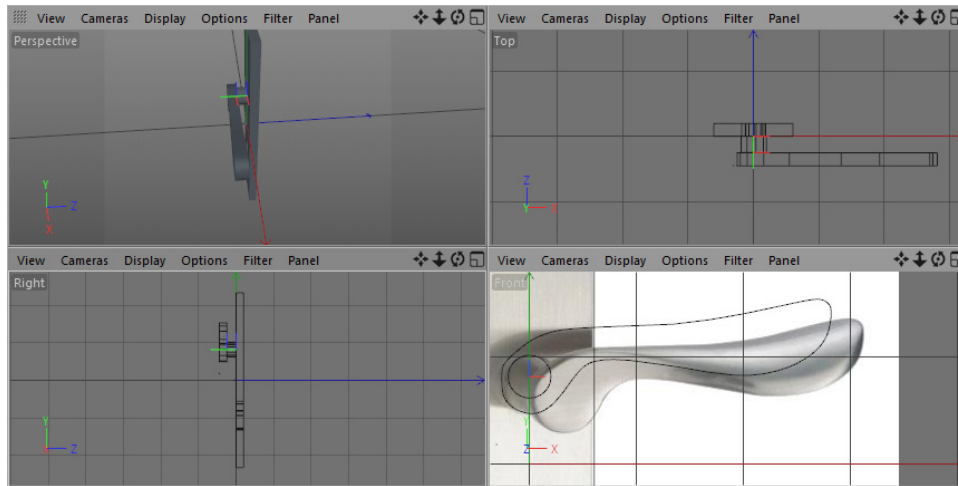

Figure 2-23 Joint and Joint.1 lofted to create a surface
12. Press F5; all viewports are displayed. Select *Joint* and *Joint.1* in the Object Manager by using the SHIFT key and then press and hold the left mouse button and drag the cursor on *Loft*; the *Joint* and *Joint.1* are connected to the *Loft* in the Object Manager. Also, a surface is created. Figure 2-23 displays the surface in all viewports.